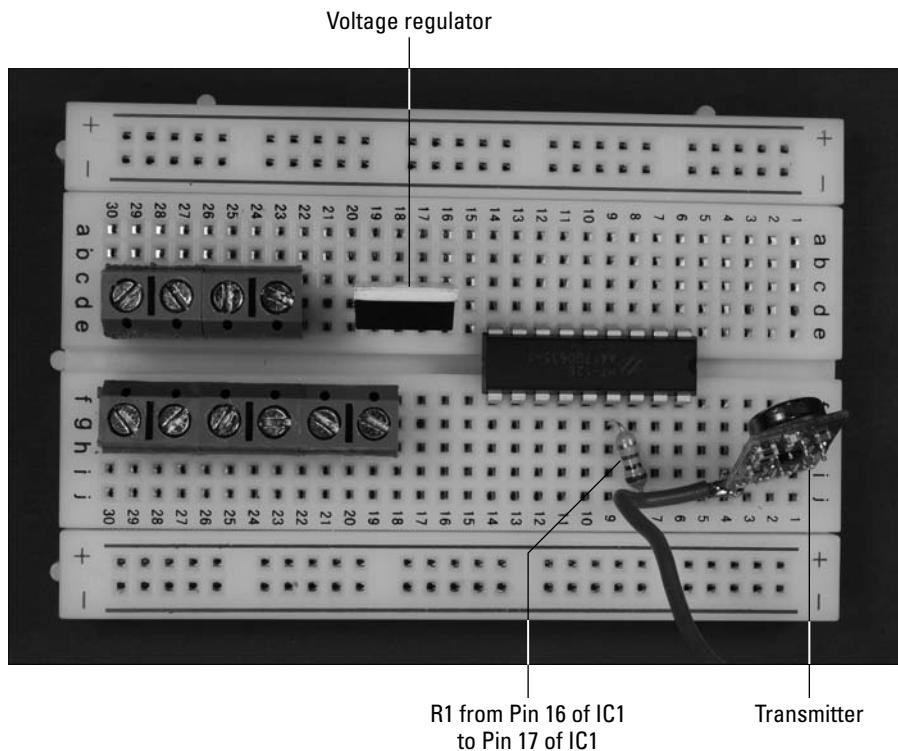

Figure 13-9:
3. Insert the voltage regulator (VR1), a 1 megohm resistor (R1), and the transmitter module on the breadboard, as shown in Figure 13-9.